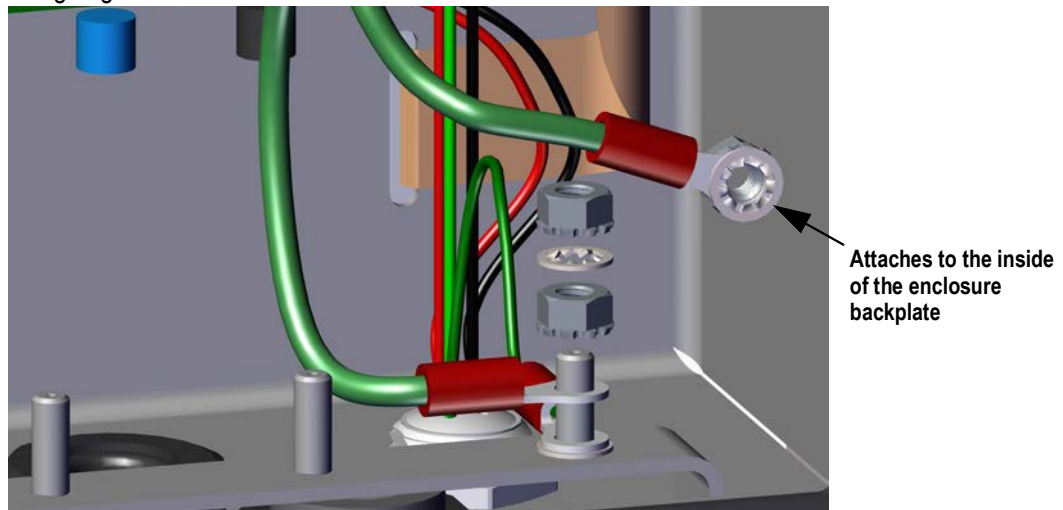

Figure 2-9. DC Grounding Stackup
2. One wire will be terminated (grounded) at a stud near the cord grip using the grounding stackup (Figure 2-9).